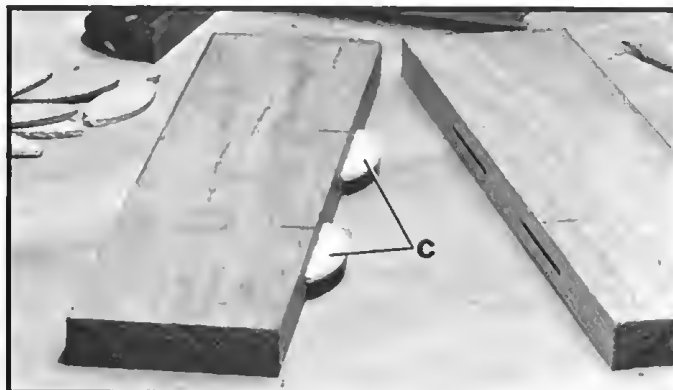

Fig. 35
3. Apply glue to inside of biscuit slots and insert biscuits (C) into two of the slots, as shown in Fig. 35. Then press the two pieces of wood together.